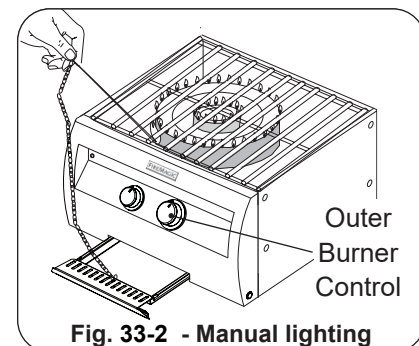

Fig. 33-2 - Manual lighting
WARNING: **DO NOT** put hand directly above the burner when lighting but off to the side as shown (Fig. 33-2).
- 2a. Insert either a burning long-barrel butane lighter, a burning long-stem match, or a burning match held by a wire extension holder through the cooking grids to the desired burner to be lit (Fig. 33-2). **With the flame still next to the burner, depress the corresponding control knob (outer burner-right knob, inner burner-left knob), and while pressing turn it counterclockwise to the HI LIGHT position.** Remove the lighter or match when the burner lights, and release the control knob.
3. If the burner does not light within five (5) seconds of turning the control knob, **IMMEDIATELY** turn the burner control knob to the **OFF** position. **WAIT FIVE MINUTES** before repeating steps 2 and 3 of the **MANUAL LIGHTING INSTRUCTIONS**.